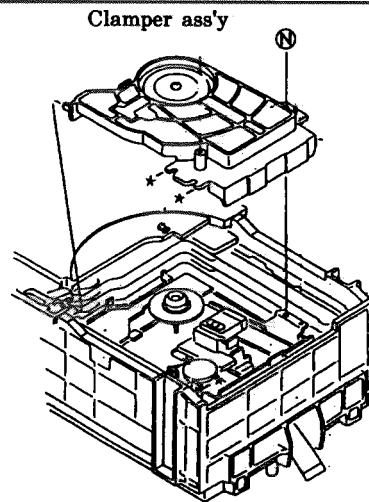

Fig.21
5. Remove a screw ⑤ securing center of the clamper ass'y. (See Fig. 21)